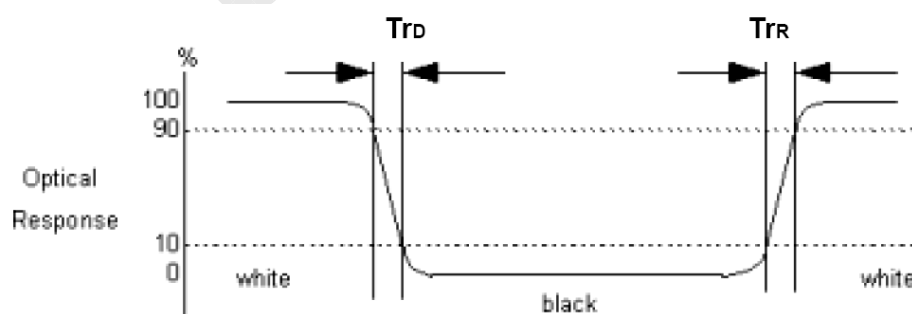

Fig.4-3 Response time
4. Response time is the time required for the display to transition from white(L255) to black(L0) (Decay Time, $T_{RD}=T_f$) and from black(L0) to white(L255) (Rise Time, $T_{RR}=T_r$). For additional information see Fig. 4-3.